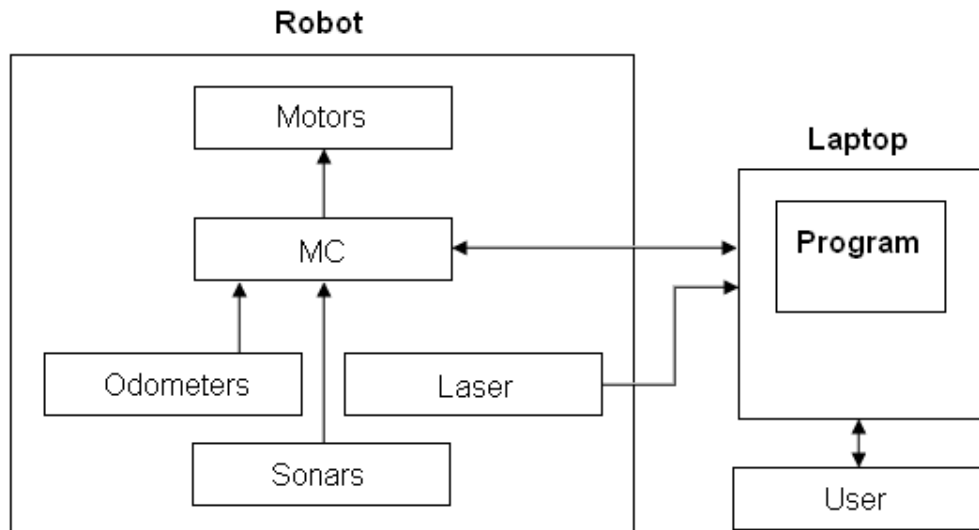

Figure 2: Overview of the system.
The system consists of a MobileRobots P2-DX robot with a HP ProBook 6450b laptop mounted on it. The laptop runs the application that controls the robot and could also be used as an interface if a user wants to manually control the robot or view the robot's map. The robot and the laptop communicate via a RS232 serial port. The different parts of the system and how they communicate can be viewed in Figure 2. The laser and sonars send range measurements and the odometers send wheel position and speed estimates. The micro controller (MC) decodes the data from the sonars and odometers and passes it on to the program. The MC also translates the motion commands from the program to control signals for the motors. When collecting data, the user drives the robot with the laptop's arrow keys. When mapping is done the user can tell the program where the robot should go. The output from the program to the user is a map and the robot's current position in the map.